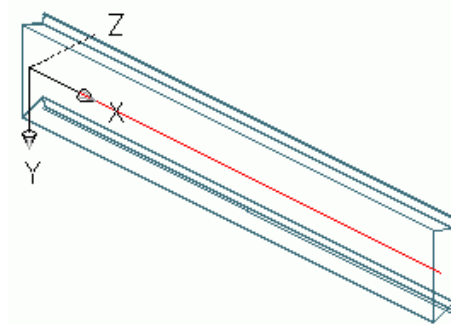

Figure 45: Krupp box section
- Select a suitable user coordinate system (see Figure 45).